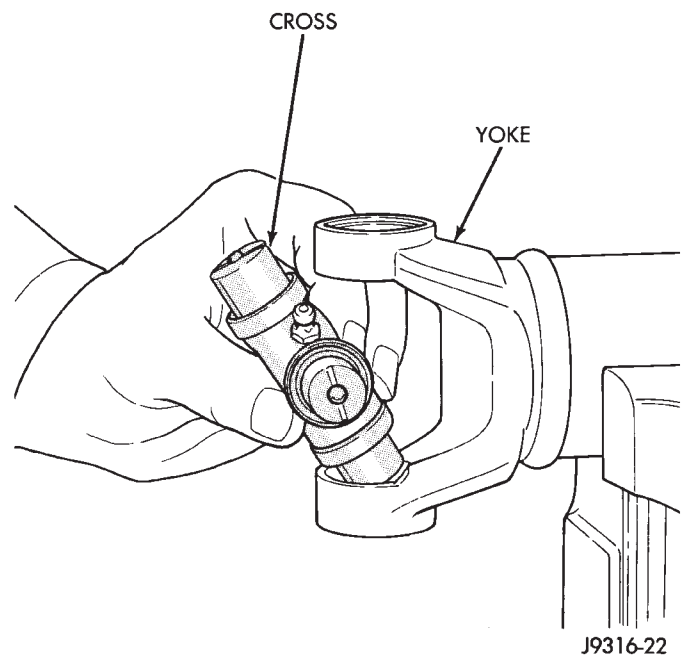

Fig. 20 Install Cross In Yoke
(1) Apply extreme pressure (EP) N.L.G.I. Grade 1 or 2 grease to inside of yoke bores to aid in installation.
(2) Position the cross in the yoke with its lube fitting, if equipped, pointing up (Fig. 20).